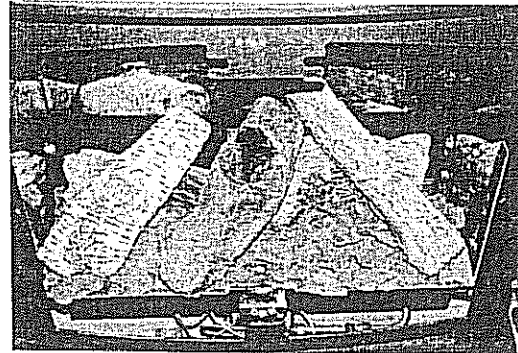

Fig. 4 Side log placement
- (iv) Lay the remaining two logs on the rear logs as shown in fig. 4